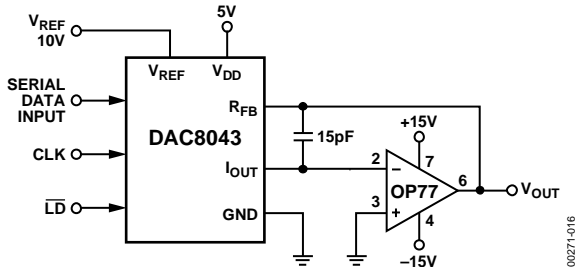
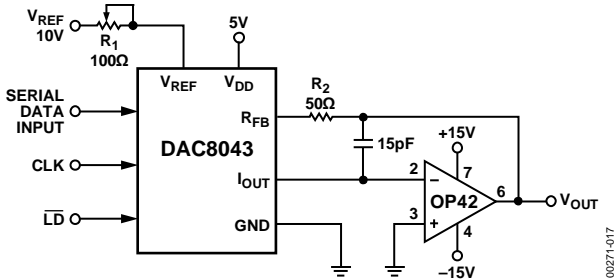
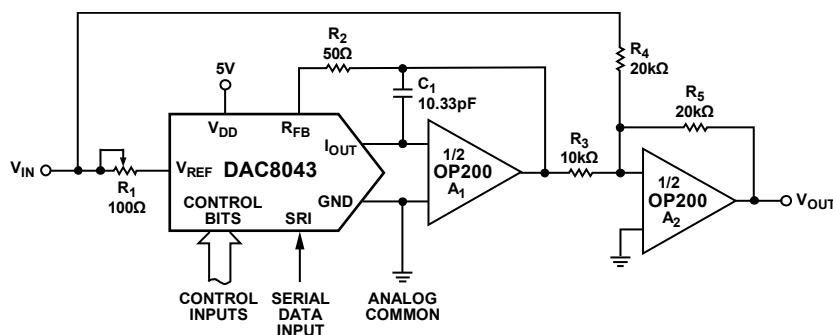

Figure 16. Unipolar Operation with High Accuracy Op Amp (2-Quadrant)
Figure 17. Unipolar Operation with Fast Op Amp and Gain Error Trimming (2-Quadrant)
Figure 19. Bipolar Operation (4-Quadrant, Offset Binary)
1. Phase compensation (see Figure 16 and Figure 17).
In most applications, linearity depends upon the potential of the I_{OUT} and GND pins being equal to each other. In most applications, the DAC is connected to an external op amp with its noninverting input tied to ground (see Figure 16 and Figure 17). The amplifier selected should have a low input bias current and low drift over temperature. The amplifier's input offset voltage should be nulled to less than 200 μV (less than 10% of 1 LSB).
The circuits shown in Figure 16 and Figure 17 may be used with an ac or dc reference voltage. The output of the circuit ranges between 0 V and approximately -V_{REF} (4095/4096), depending upon the digital input code. The relationship between the digital input and the analog output is shown in Table 6. The limiting parameters for the V_{REF} range are the maximum input voltage range of the op amp or ±25 V, whichever is lowest.
Gain error may be trimmed by adjusting R₁, as shown in Figure 17. The DAC register must first be loaded with all 1s. R₁ may then be adjusted until V_{OUT} = -V_{REF} (4095/4096). In the case of an adjustable V_{REF}, R₁ and R₂ may be omitted, with V_{REF} adjusted to yield the desired full-scale output.
¹ Nominal full scale for Figure 16 and Figure 17 circuits is given by
² Nominal LSB magnitude for Figure 16 and Figure 17 circuits is given by
Figure 19 details a suggested circuit for bipolar, or offset binary, operation. Table 7 shows the digital input to analog output relationship. The circuit uses offset binary coding. Twos complement code can be converted to offset binary by software inversion of the MSB or by the addition of an external inverter to the MSB input.
MSB LSB	(V _{OUT} as Shown in Figure 19)
¹ Nominal full scale for Figure 19 circuits is given by
² Nominal LSB magnitude for Figure 19 circuits is given by
The transfer function for the DAC8043 connected in the multiplying mode, as shown in Figure 16, Figure 17, and Figure 19, is